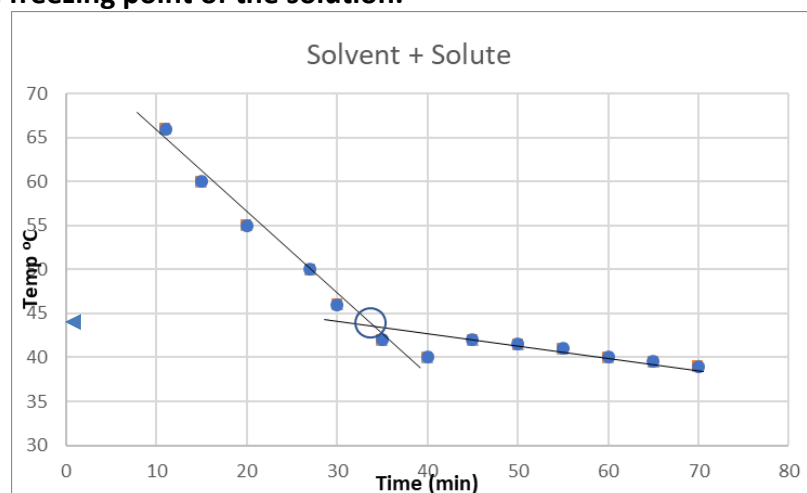

Figure 3: Solution cooling curve showing best fit straight lines through the two portions of the data.
Figure 3 shows an example with the trend lines drawn in and the intersection of the lines. In the example shown in Figure 3 the freezing point would be measured as about 44 °C. If we continue to record and plot the temperature of the solid, the data points may start to deviate from the
trend line shown in Figure 3 corresponding to the freezing of the liquid. In this case you would not include those points in the trend line.
8. After you graph is printed, you will need to draw by-hand the two trend lines to determine where the temperature where they intersect. See Figure 3 for an example.
3. Using the following graph, draw lines to determine the freezing point for this solution. See Figure 3 for an example. Record the value you determined here: _____